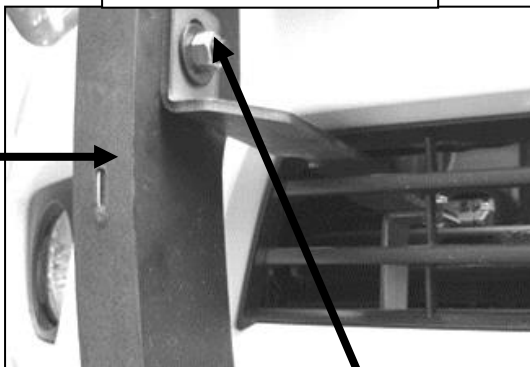

Figure 4
8. Once the bottom brackets are loosely installed, proceed to attach Grille Guard to Top Brackets by using the included (2) 10-1.50mm Button Head Bolts, (2) 10mm Nylock Nuts, and (2) 10mm Flat Washers (Figure 4). Do not tighten at this time.